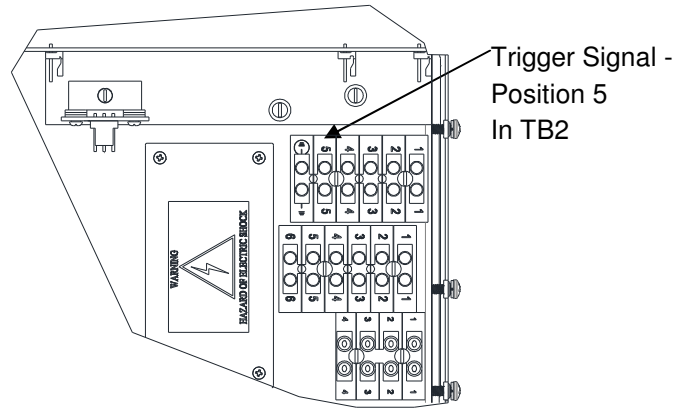
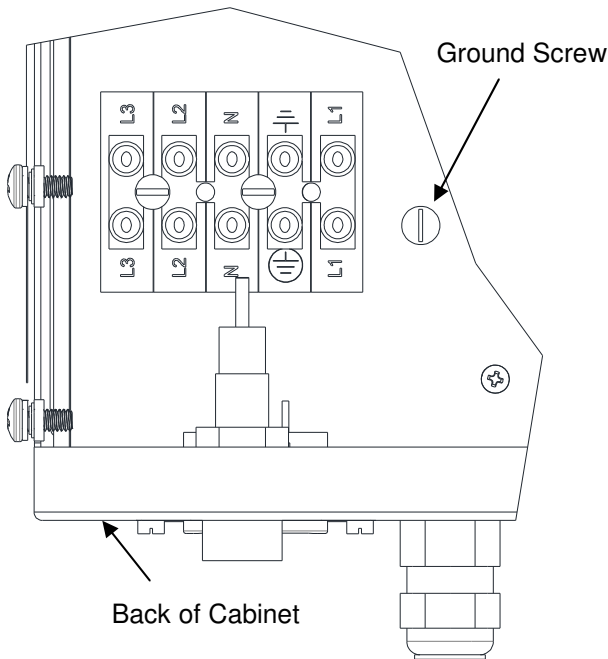
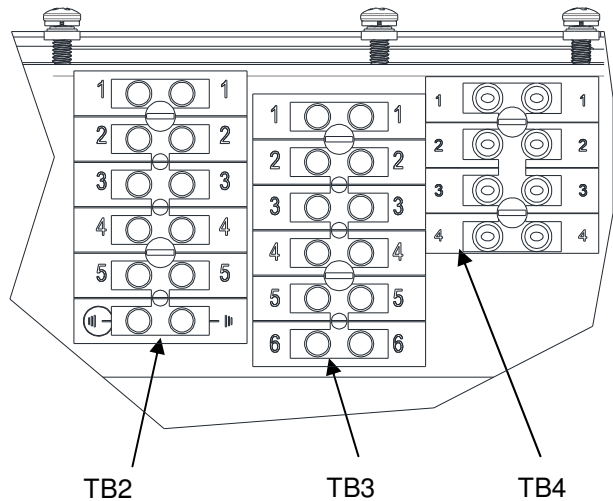

Figure 14: Remote I/O Signal Terminal Block
Figure 13: Ground Screw on Base Plate
Figure 16: I/O Terminal Block Locations
3. If the flow switch is being used, connect the ground (green) lead from the flow switch to the ground screw on the base plate shown in Figure 13. The trigger signal (black) lead should be connected to the trigger signal on the remote I/O terminal block connector (Position 5) as shown in Figure 14.
- The local/remote board (Assy# A13123), shown in Figure 14 at the bottom below the remote I/O signal terminal block, is designed for trigger protection in REMOTE mode. It must have the jumpers adjusted into "bypass position" to allow for LOCAL mode operation for the desired input type. The location of the jumpers on the board is displayed in Figure 16. Use the LOCAL mode jumper settings table for the jumper settings based upon your specific input.
4. Connect the conductors to the respective remote I/O signal locations. Screw down the terminal block screws to secure the conductors in place. The I/O Signal Locations table contains the complete list of all I/O, ground, and 24VDC supply locations as well as their normal voltage/current values. The locations of the I/O terminal blocks are shown in Figure 16.